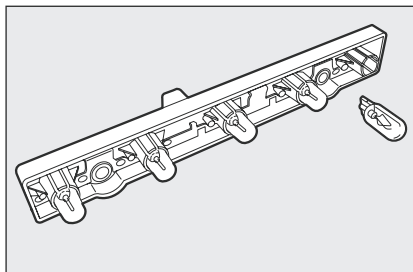

fig. 18
- remove and replace the bulbs **fig. 18**.